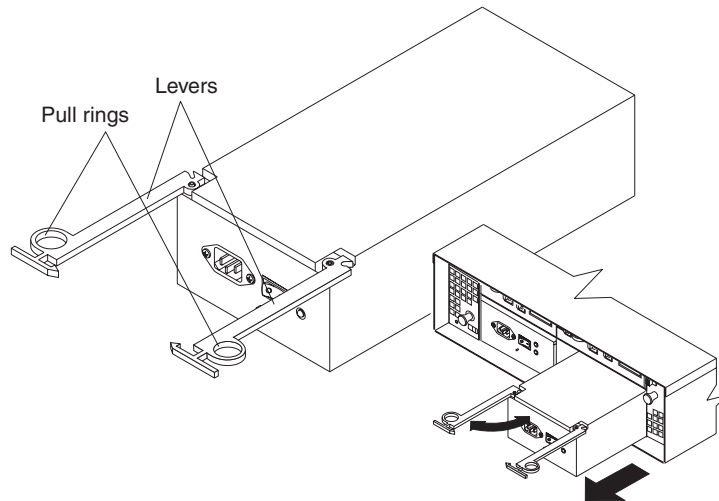

Figure 8. Removing a power supply CRU
3. Pull the lever open and remove the power supply as shown in Figure 8 on page 15.